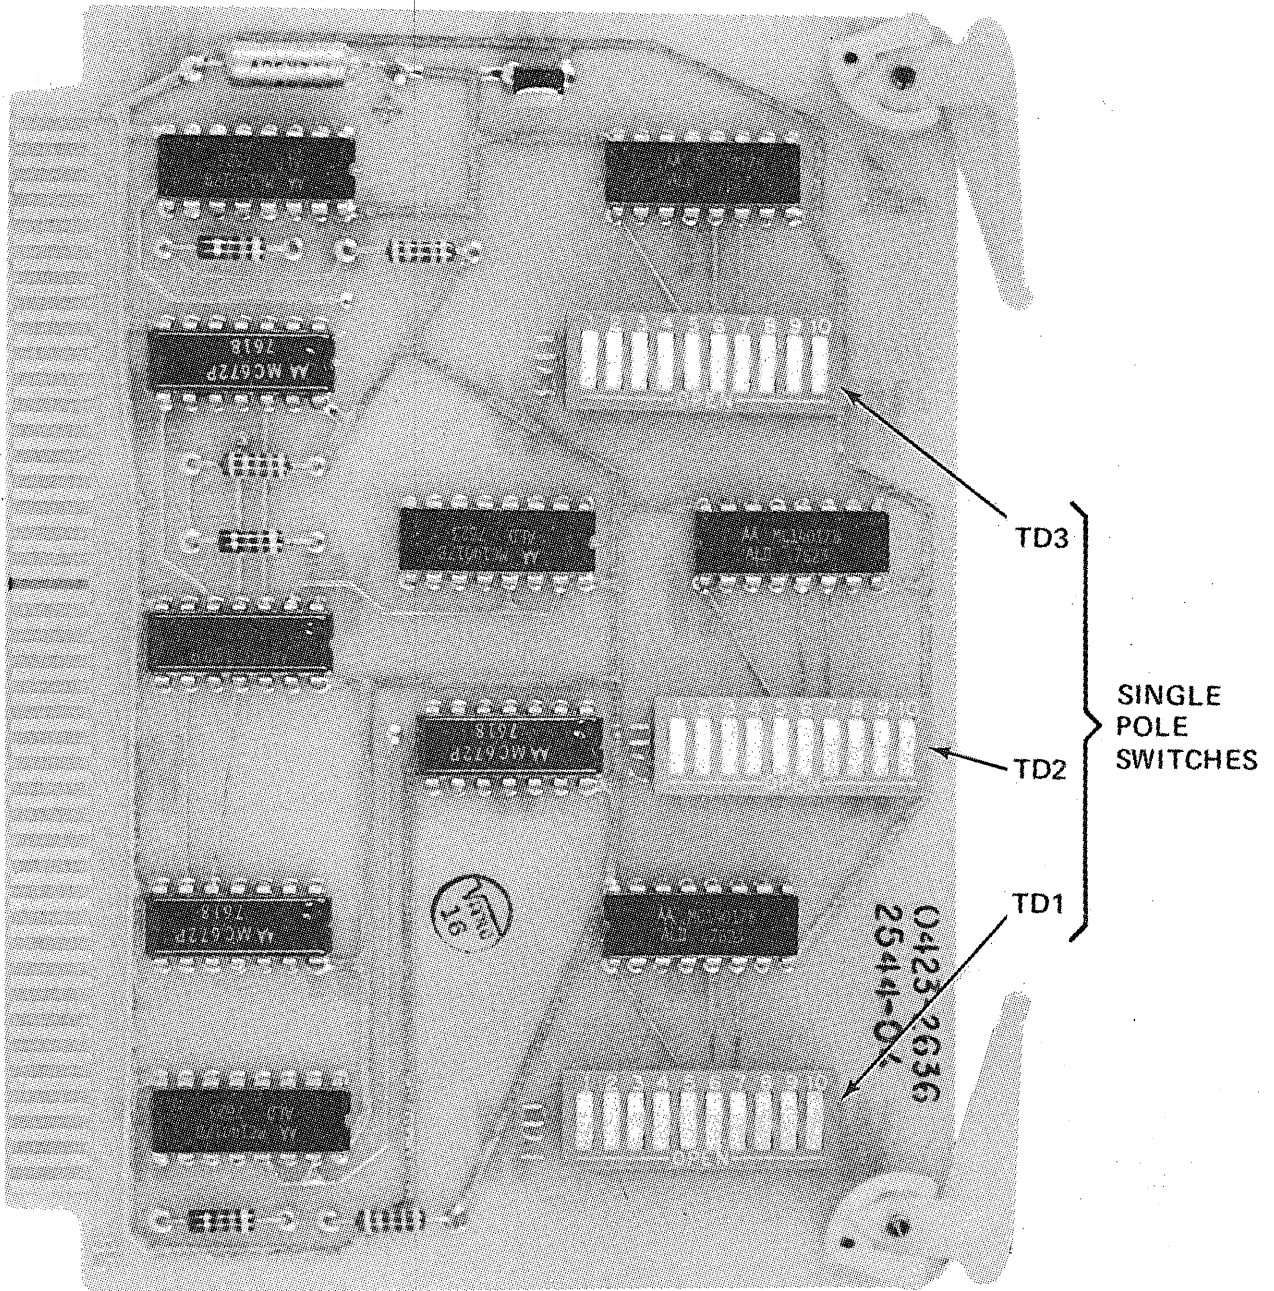

Figure 8. Time Delay/One Shot Card
- b. Time Delay/One Shot Card (figure 8)
7.3.2 TIME DELAYS AND ONE SHOTS. Sequence step pulsed outputs and the remaining timing functions are located on Time Delay/One Shot cards. Each TD/OS card contains three switch packages designated as TD1, TD2, and TD3, as shown in figure 8. The procedure for making these adjustments is similar to that for Step Card No. 3. However, the switch number on the appropriate package